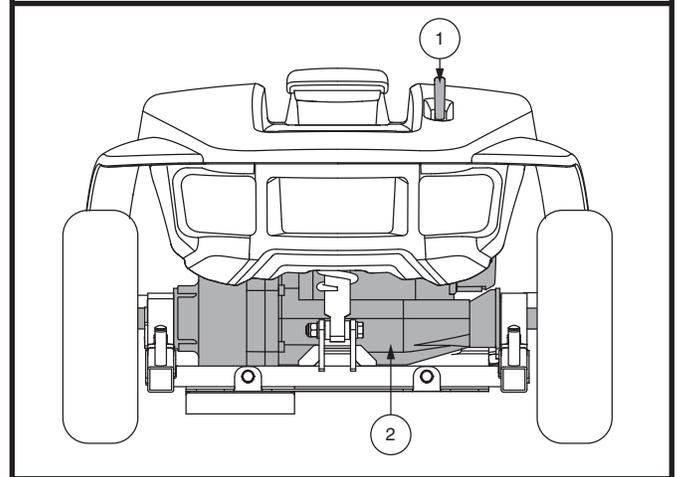

Figure 2. Rear Components
The manual freewheel lever and motor/transaxle assembly are located on your vehicle as shown. See figure 2.
1. Locate the lever on the rear section of the vehicle. See figure 2.